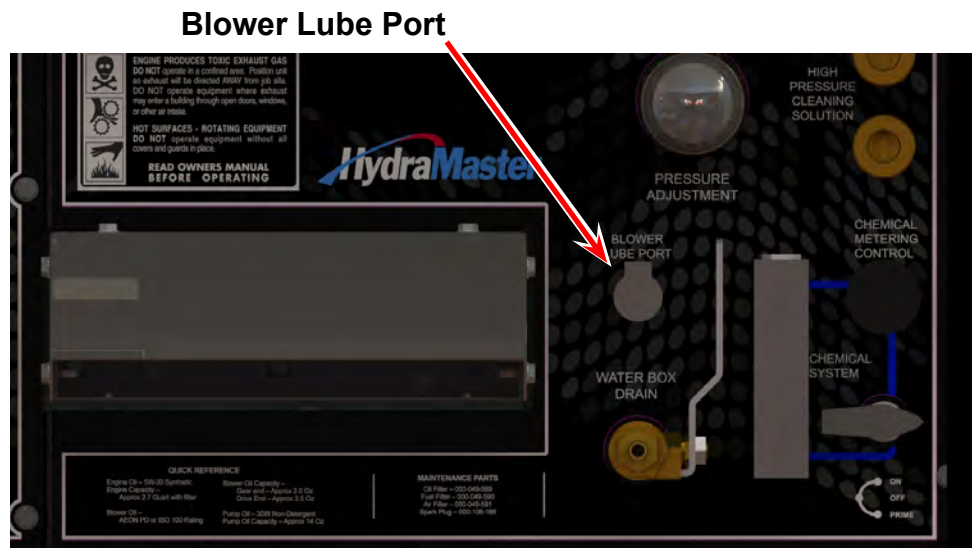

Figure 7. Location of Blower Lube Port
- c. Spray a HydraMaster-recommended spray lubricant into the “BLOWER LUBE PORT” for about 5 to 10 seconds while the unit is running (see Figure 7).